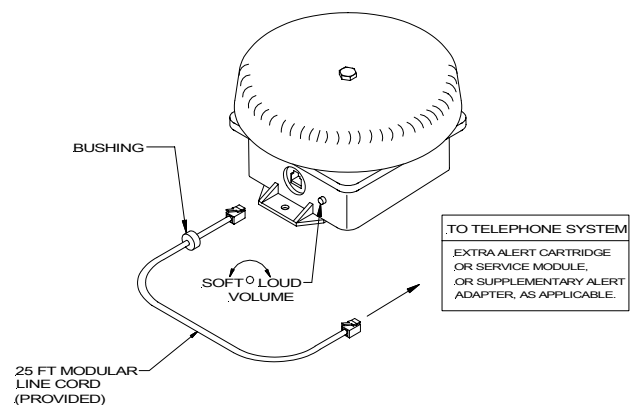

Figure 2: Modular Connection
- d. Route the telephone cord through the bushing (provided) and plug the telephone cord into the unit modular phone jack, then plug the bushing into the backbox per Figure 2.